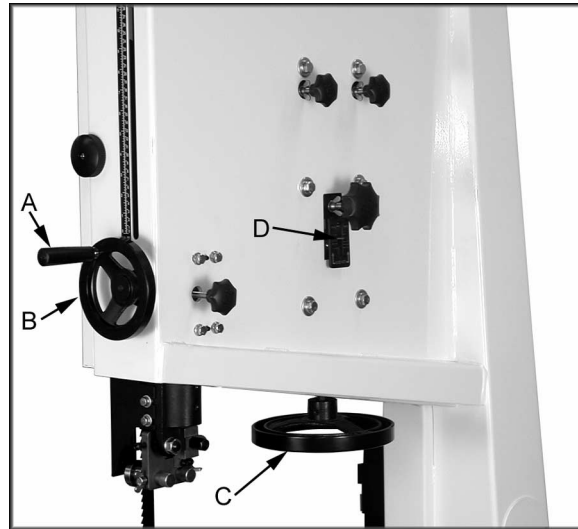

Figure 1
1. Attach the handle (A, Fig. 1) to the handwheel (B, Fig. 1).
2. Turn blade tension hand wheel (C, Fig. 1) counter-clockwise to tension blade and clockwise to loosen the tension. A gauge on the upper wheel slide bracket (D, Fig. 1) indicates the approximate tension according to the width of the blade. The JWBS-20 comes with a 1" blade so the tension should be set at 1".